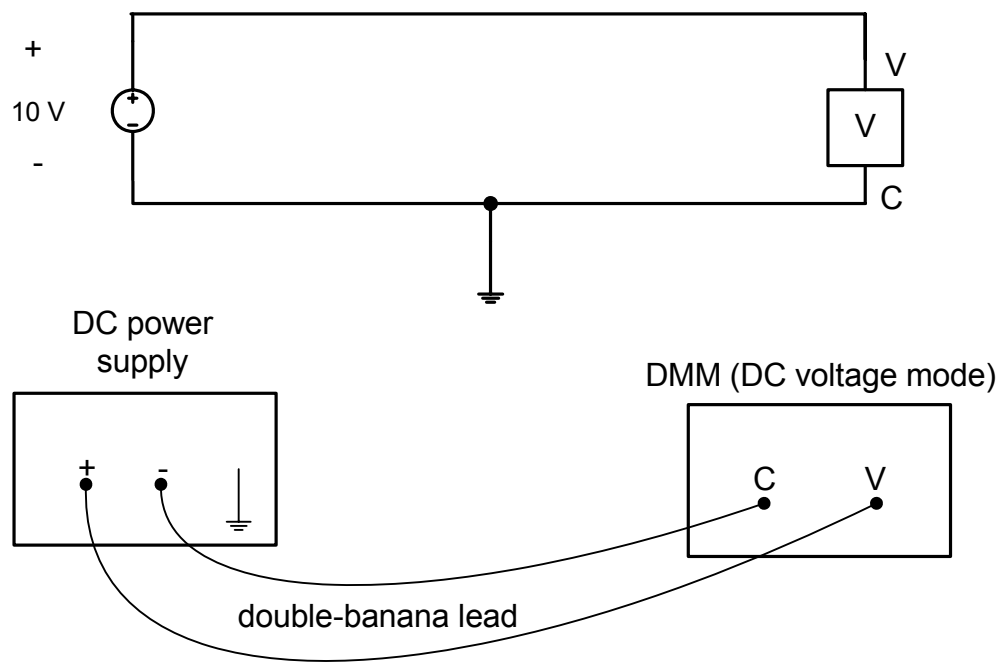

Figure EE.1
- Step 2:** Select an appropriate range (7) for reading voltages of about 10V.
- Step 4:** Push the power button or switch (1). If you are using the GPS-3303 make sure both tracking mode switches (14) are “out”, i.e. disengaged.
- Step 5:** Connect the free plug of the two-wire lead that you connected to the DMM to the output of the DC power supply according to Figure EE.1 on the next page and as shown below. For the HP Model 6218A the output voltage appears between the (+) and (-) terminals (8) for the GPS-3303 between the (+) and (-) terminals of (10) or (11) depending on if CH1 or CH2 is used. If you are using the GPS-3303 push in the output button (15) – the output indicator light should be on.